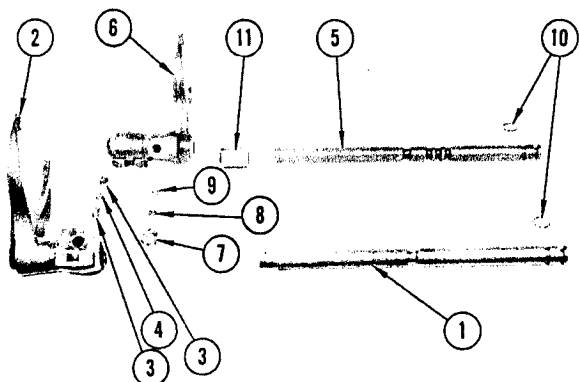

FIGURE 87. EXPLODED VIEW OF SHIFTER MECHANISM
Refer to Figure 87 and remove shifter mechanism. Pull lower shifter rail (1) and remove rear shifter fork (2), interference